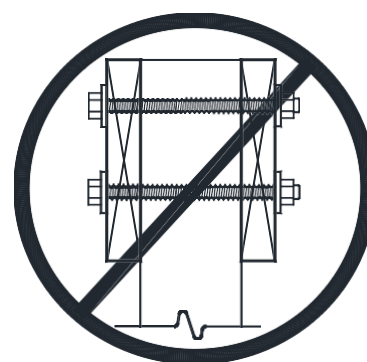

FIGURE 18: PROHIBITED CONNECTION
- Beams shall not be attached to the sides of an unnotched post as shown in FIGURE 18.